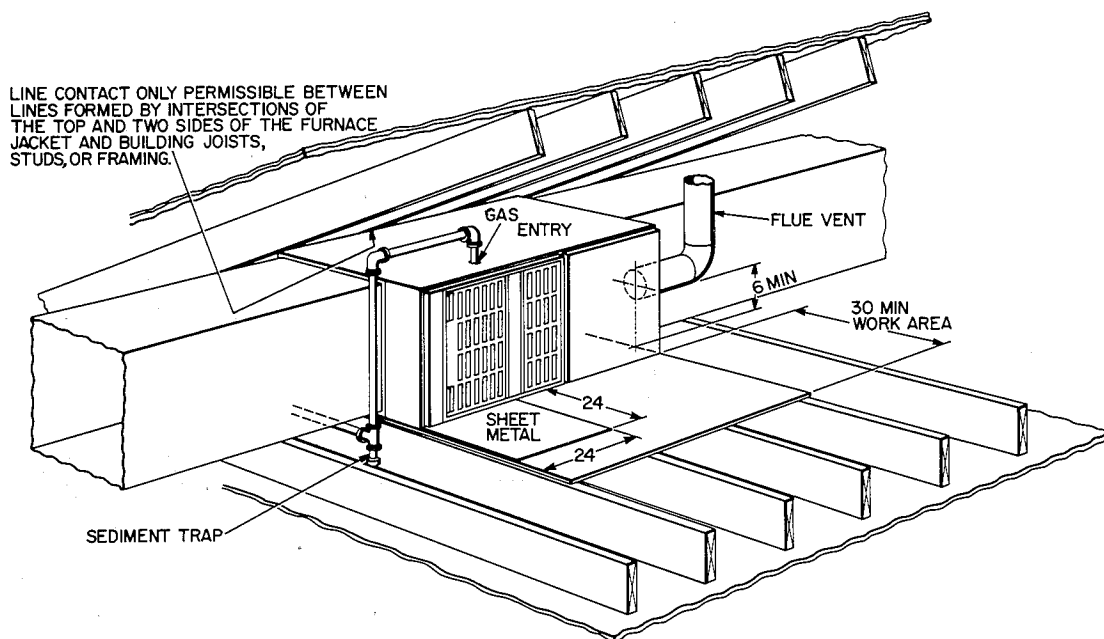

Figure 7—Typical Attic Installation
The furnace can be installed horizontally on either the lefthand (LH) or righthand (RH) side. A typical attic installation is shown in Figure 7.
1. Construct working platform on location where all required furnace clearances are obtainable. (See Table I and Figure 7.)
2. Connect gas supply pipe; see Figure 7 for typical piping entry.
- b. Install 24- x 24-inch sheet metal shield on platform in front of louvered control panel, as shown in Figure 7.